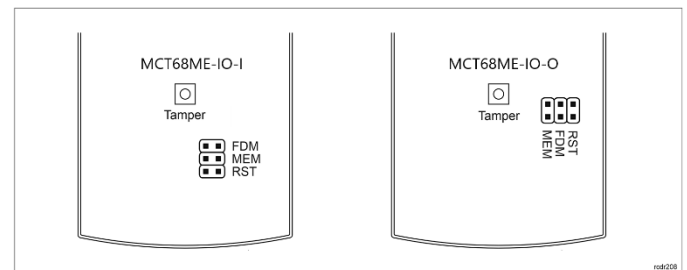

Fig. 2 Service contacts.
In RACS 5 v2 system the reader can be installed at site without previous configuration. According to AN006 application note, its address and other settings can be configured from VISO v2 management software and during such configuration the access to its service contacts (fig. 2) is not required.
2. Place jumper on MEM contacts (fig. 2)
2. Place jumper on FDM contacts (fig. 2).